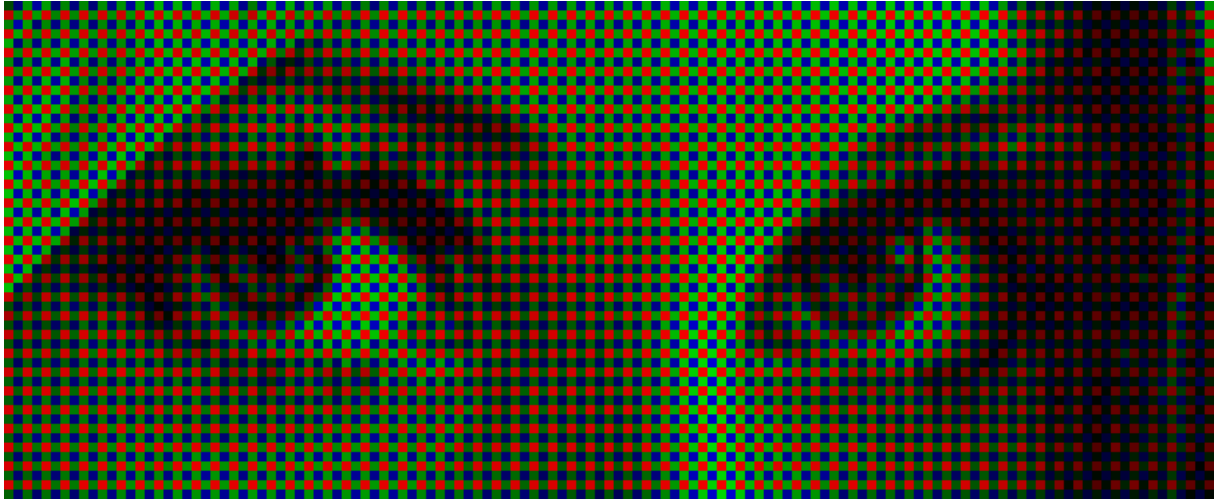
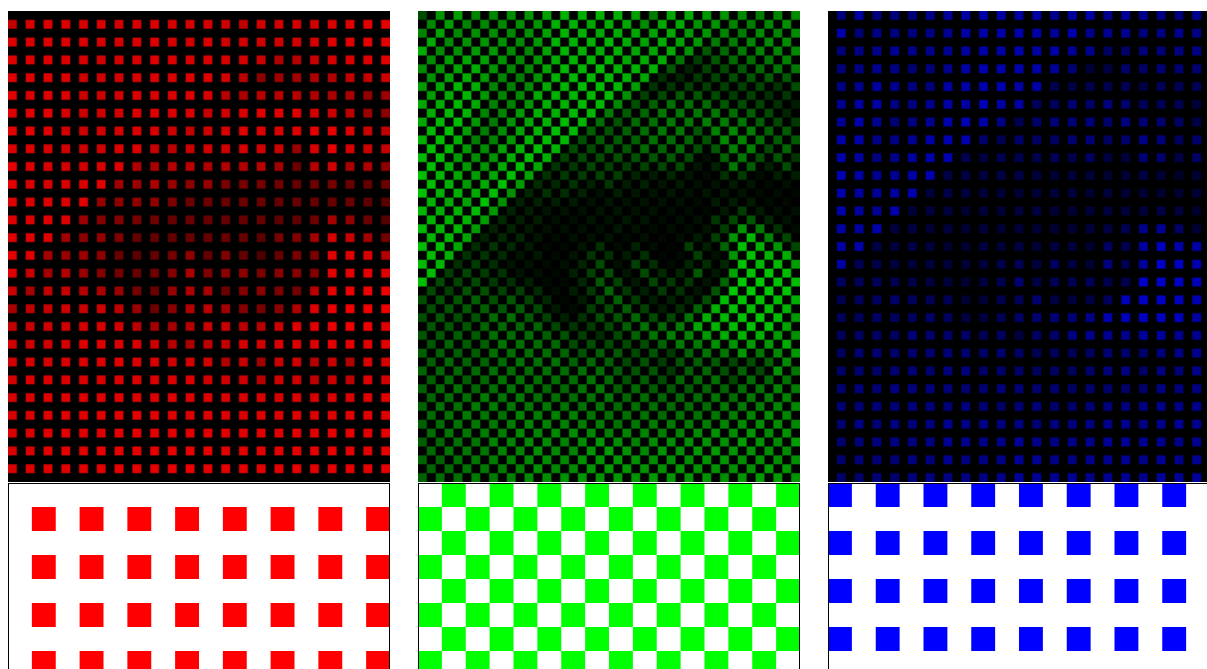

Figure 1: Raw data from Bayer CFA visualized without interpolation
Figure 2: Separated colors with the corresponding CFA
5. Pick the pixel values to the R, G and B layer matrices from the read data. The original data in `rawImage` are grayscale values, some representing red, some green and some blue pixels, organized in the order visualized in Figures 1 and 4. Final R, G and B matrices should contain a grid of known intensity values picked from `rawImage` and missing values in between containing zeros (Figure 2, note that R, G and B are shown here in color but they are actually grayscale). *Tip: initiate R, G and B as matrices of zeros with correct dimensions (same as `rawImage`), then go through the entire raw image and pick the red pixels from `rawImage` to R, green pixels to G and blue pixels to B using either for-loops or clever indexing.*
To measure the three main colors, separated color filter arrays (CFA) are used with the sensor. On top of each cell (pixel), there will be a single color filter allowing either red, green or blue light to pass to the sensor. The most common CFA is the Bayer filter, where red, green and blue filters are in group of four cells with two green and single red and blue cells (see raw data at Figures 1 and 2). The green color is measured with two cells instead of one, as the human eye is more sensitive to the green color. The amount of cells in the sensor defines the amount of pixels in the output image. Thus in the raw data there is only one color value for each pixel. For example, in a 16 Mpix camera sensor the number of pixels can be 4928×3264 .